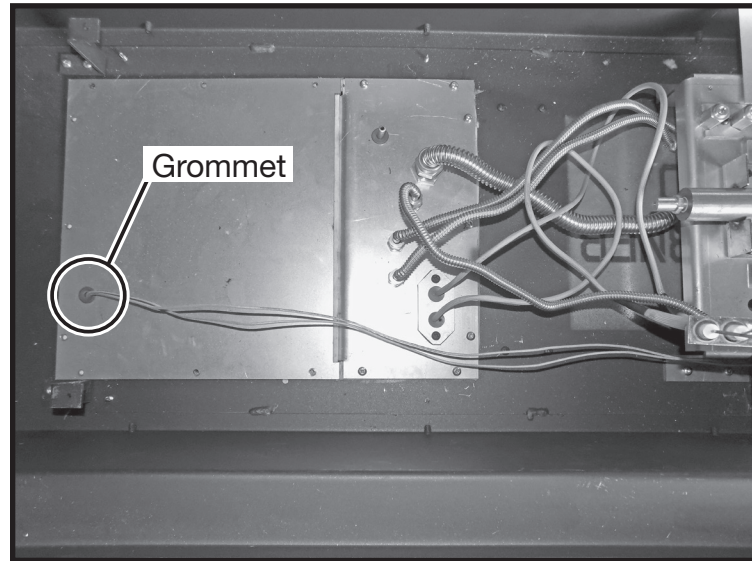

Figure 47: Wires through grommet.
2. Remove large cover panel. If this fireplace has lighting built in to the secondary floor, it will be necessary to disconnect the lighting wires from the electrical connection compartment in front of the control box in order to withdraw the lighting wires through the grommet (Figure 47).